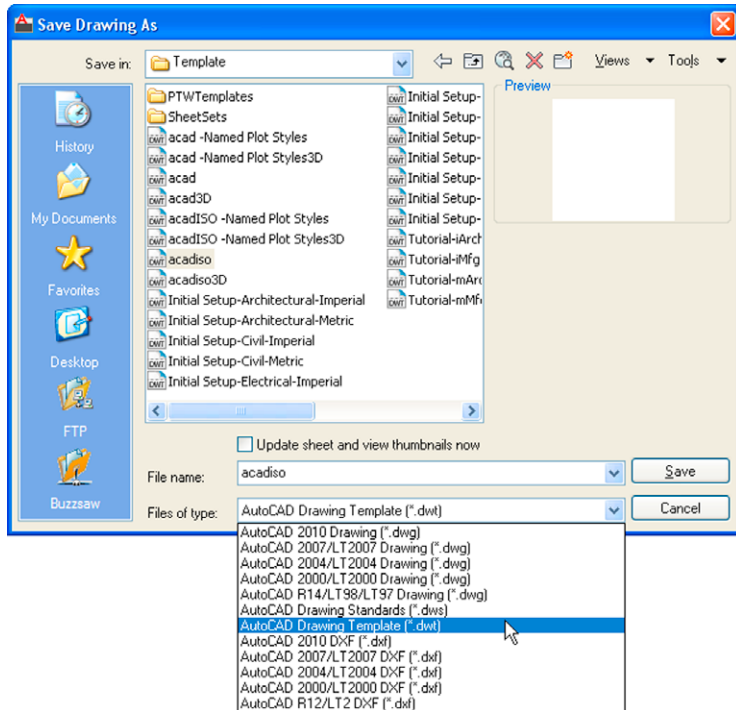

Fig. 4.21 Saving the template to the name **acadiso.dwt**
- In the **Save Drawing As** dialog which comes on screen (Fig. 4.21), *click* the arrow to the right of the **Files of type** field and in the popup list associated with the field *click* on **AutoCAD Drawing Template (*.dwt)**. The list of template files in the **AutoCAD 2011/Template** directory appears in the file list.